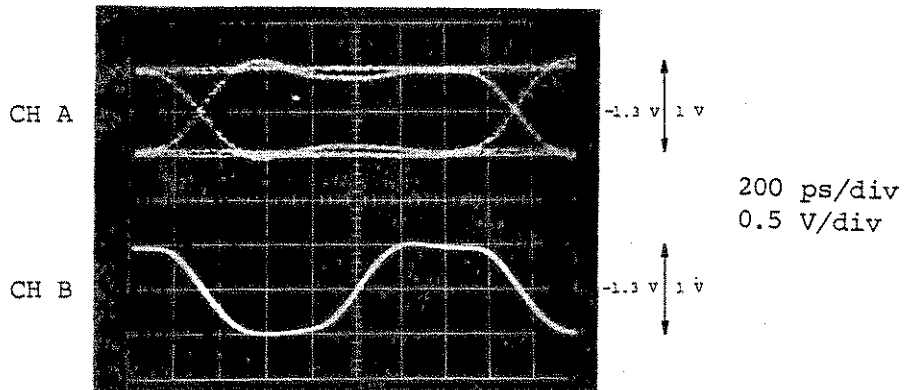

Fig. 6-18 CLOCK 1 Output and DATA 1 ECL Level
- 10 Confirm that the waveform on the oscilloscope is as shown in Fig. 6-18.